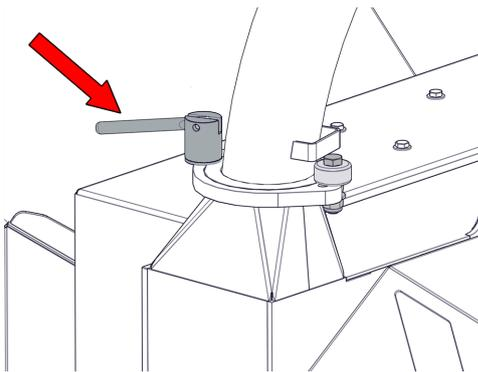

Figure 7 - Discharge Tube Locking Nut
1. Slacken the locking nut using the integral handle (Figure 7).